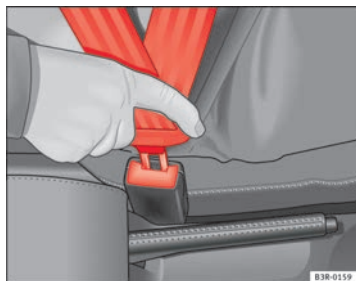

Fig. 11 Belt buckle and latch plate of seat belt
- Insert the latch into the buckle for the appropriate seat and push it down until it is securely locked with a click ⇒ Fig. 11.